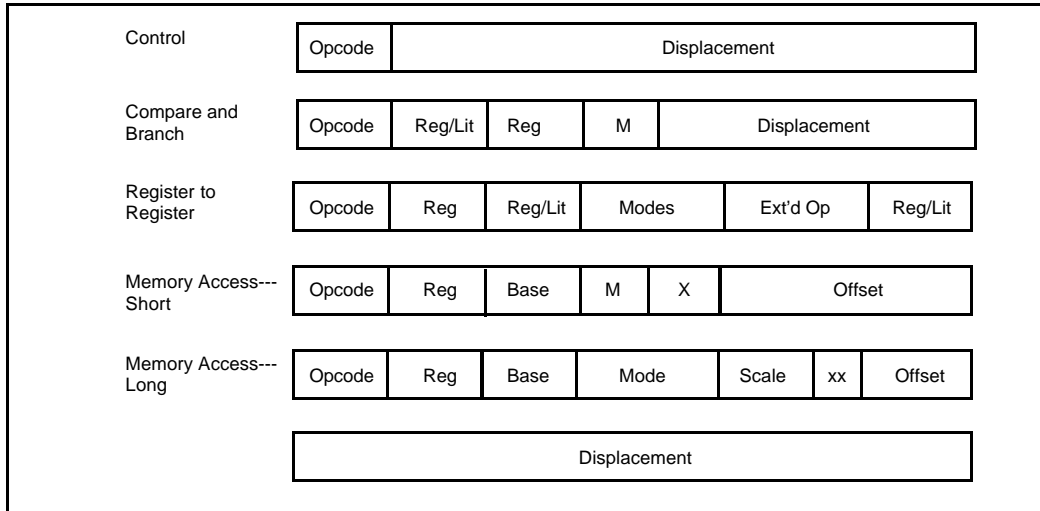

Figure 3. Instruction Formats
4. **Simple Instruction Formats.** All instructions in the 80960SB are 32 bits long and must be aligned on word boundaries. This alignment makes it possible to eliminate the instruction alignment stage in the pipeline. To simplify the instruction decoder, there are only five instruction formats; each instruction uses only one format. (See Figure 3.)